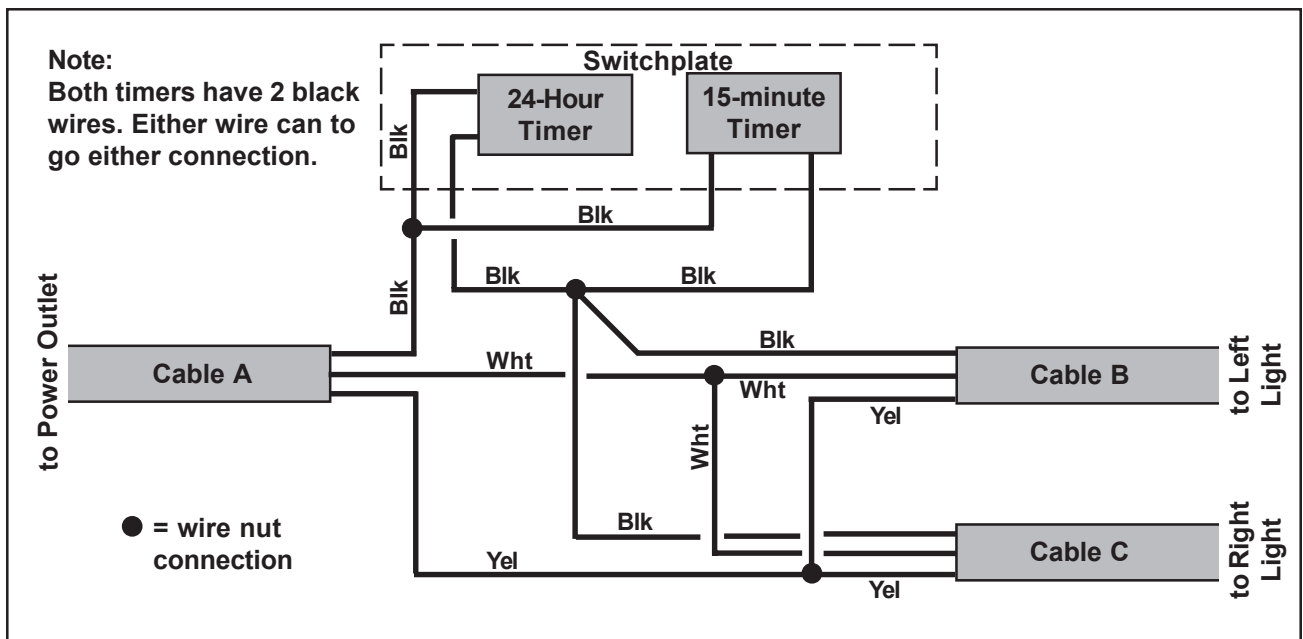

Figure 34. Light Timers - Wiring Diagram
3. Refer to the Wiring Diagram in Figure 34, and remove the two wire nuts that hold the two black wires from the 24-hour timer to the other wires in the column.
7. Refer to the Wiring Diagram in Figure 34, and connect the black wires with wire nuts.
3. Refer to the Wiring Diagram in Figure 34, and remove the two wire nuts that hold the two black wires from the 15-minute timer to the other wires in the column.
6. Refer to the Wiring Diagram in Figure 34, and connect the black wires together with wire nuts.
4. Refer to the Wiring Diagram in Figure 34, and remove the wire nuts that hold the black, white, and yellow wires from Cable A to the other wires in the column.
2. Refer to the Wiring Diagram in Figure 34 and connect the wires from Cable A to the other wires in the switchplate.
4. Refer to the Wiring Diagram in Figure 34, and remove the wire nuts that hold the black, white, and yellow wires from Cable B to the other wires in the switchplate.